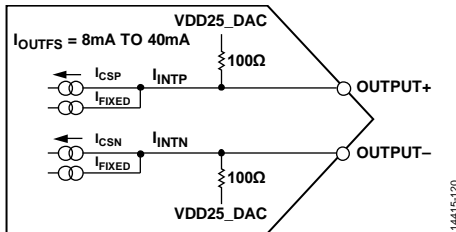

Figure 135. Equivalent DAC Output Circuit
The AD9163 provides complementary current outputs, OUTPUT+ and OUTPUT–, that sink current from an external load that is referenced to the 2.5 V VDD25_DAC supply. Figure 135 shows an equivalent output circuit for the DAC. Compared to most current output DACs of this type, the outputs of the AD9163 consists of a constant current (I_{FIXED}), and a peak differential ac current, I_{CS} ($I_{CS} = I_{CSP} + I_{CSN}$). These two currents combine to form the I_{INTx} currents shown in Figure 135. The internal currents, I_{INTP} and I_{INTN} , are sent to the output pin and to an input termination resistance equivalent to 100 Ω pulled to the VDD25_DAC supply (R_{INT}). This termination serves to divide the output current based on the external termination resistors that are pulled to VDD25_DAC.
The example shown in Figure 135 can be modeled as a pair of dc current sources that source a current of I_{OUTFS} to each output. This differential ac current source is used to model the signal (that is, a digital code) dependent nature of the DAC output. The polarity and signal dependency of this ac current source are related to the digital code (F) by the following equation: